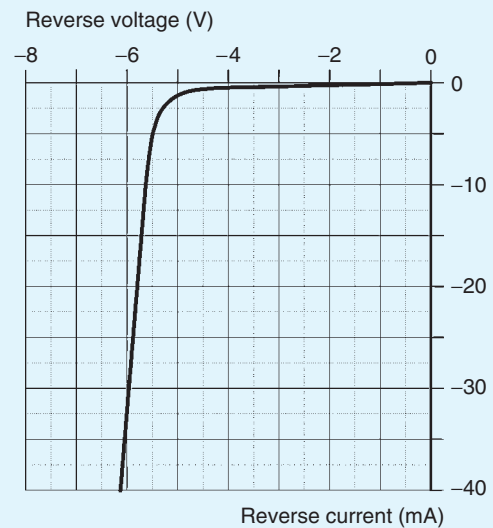

Figure 11.21
- The graph shown in Fig. 11.21 was obtained during an experiment on a Zener diode. (a) Estimate the Zener voltage for the diode. (b) Determine the reverse voltage for a reverse current of -20 mA. (c) Determine the reverse current for a reverse voltage of -5.5 V. (d) Determine the power dissipated by the diode when the reverse voltage is -6 V.